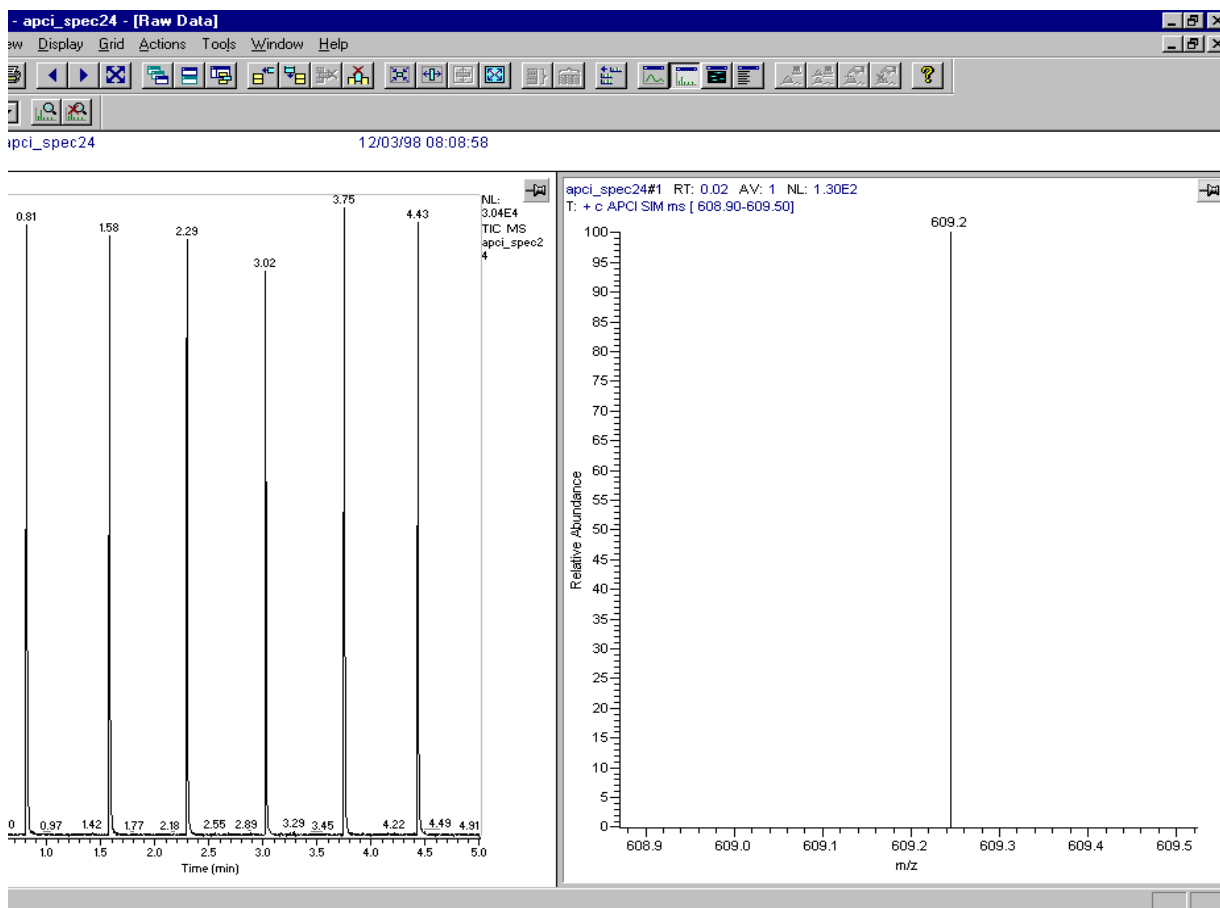

Figure 67. Qual Browser window, showing loop injections of reserpine in the Chromatogram view (left) and m/z 609 in the Spectrum view
10. Observe the reserpine peak (m/z 609.2), or that of your analyte of interest, in the Spectrum view (for an example see Figure 67, right side).
Review the mass spectrum and chromatogram in the raw file you just acquired using the Xcalibur Qual Browser window. See Figure 67.